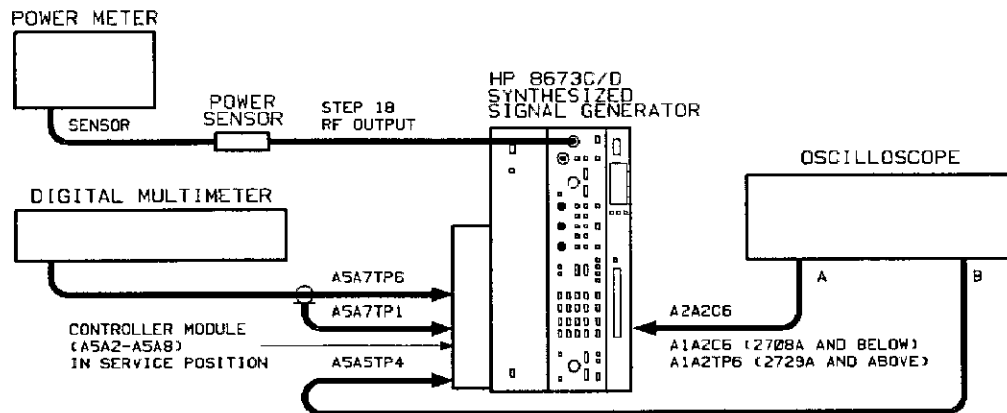

Figure 5-26. YTF Adjustment Test Setup
1. Connect equipment as shown in figure 5-26. Remove top and bottom covers of the Signal Generator and put the Card Cage and A5A9 assembly in the service position. (Refer to chapter 8, disassembly procedures.)
8. Connect oscilloscope to Signal Generator as shown in figure 5-26. Channel 1 is connected to A1A2C6 (2708A and below) or A1A2TP6d (2729A and above). Connect Channel 2 to A5A5TP4.